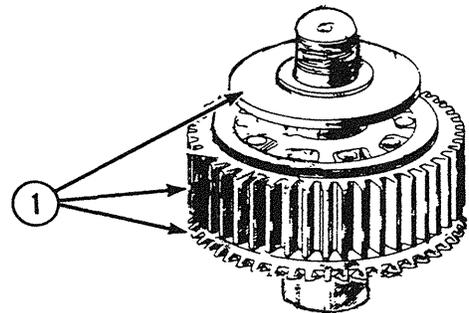

Fig. 4-6
- I. Remove upper planetary shaft spacer, roller clutch and bevel gear as a unit (1, Fig. 4-6).